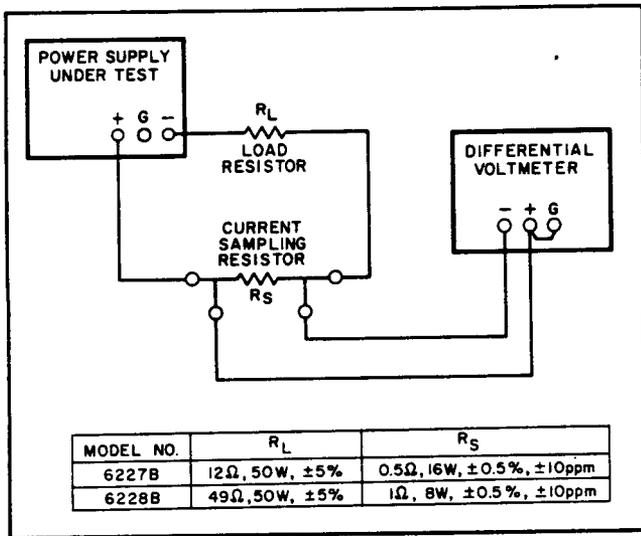

Figure 5-11. Constant Current Load Regulation Test Setup
- Connect test setup shown in Figure 5-11.
- Utilize test setup shown in Figure 5-11.